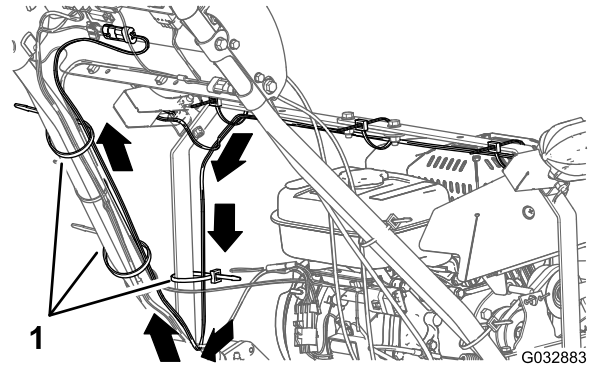

Figure 13
1. Route the wire harness for the LED light kit down the left light-bar strap and across to the left handle-bar tube (Figure 13).
2. Route the wire harness up the left handle-bar tube to the control panel (Figure 13).
3. Secure the wire harness to the left light-bar strap and handle-bar tube with 3 cable ties as shown in Figure 13.